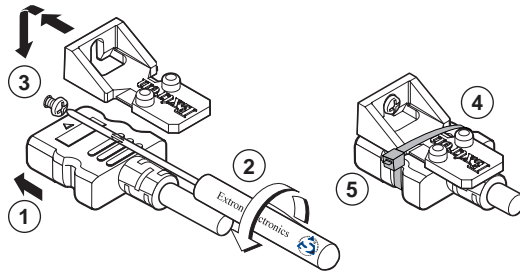

Figure 11. Installing the LockIt Lacing Bracket
4. Loosely place the included tie wrap around the HDMI connector and the LockIt lacing bracket as shown (see figure 11).